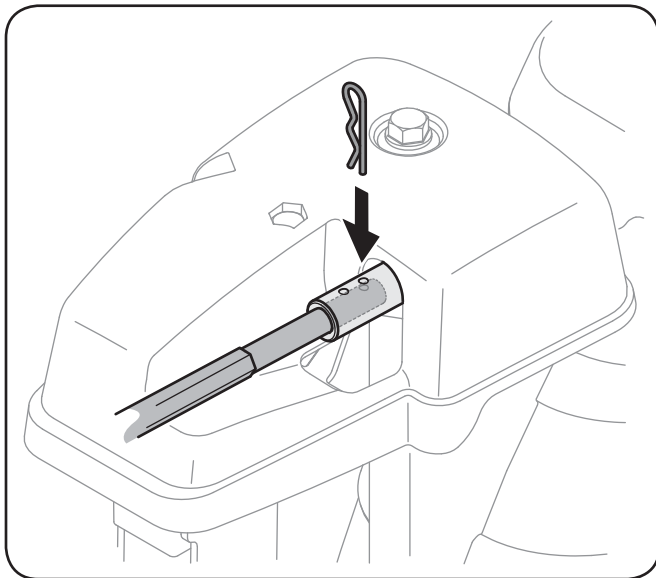

Figure 3-12
- Push the chute control rod toward the control panel until the hole in the rod lines up with the hole in the chute control input closest to the chute control head and insert the cotter pin. See Figure 3-12.